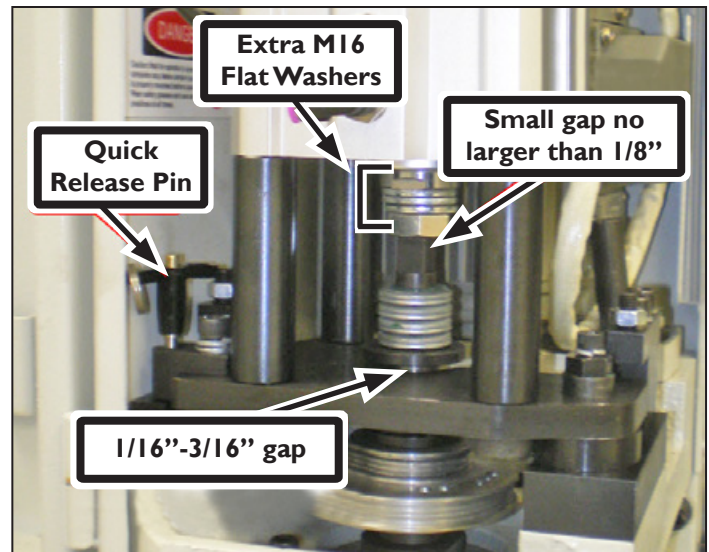

Figure 10
11. Mount the Cylinder Assembly over the Eccentric Pivot Mount and swing it into position. Use the Quick-release Pin to secure assembly. Note the 1/16 inch to 3/16 inch gap between the cylinder mounting plate and the Drawbar Flange as shown in **Figure 10**.
NOTE: Gap variations are a result of the mill's acceptable manufacturing tolerances. The gap between the cylindrical rod hex bolt and the top of the drawbar should be no larger than 1/8 inch when the cylinder is in the fully retracted position. To make sure the gap is less than 1/8 inch (see **Figure 10**), extra M16 Flat Washers (included) can be added to the hex bolt if needed.